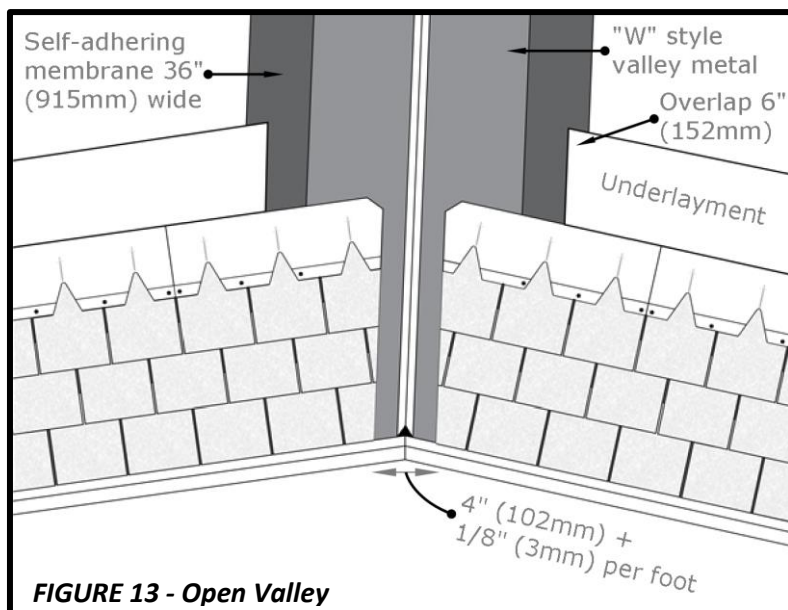

FIGURE 13 - Open Valley
- Trim shingles to the chalk line. See **Figure 13**.